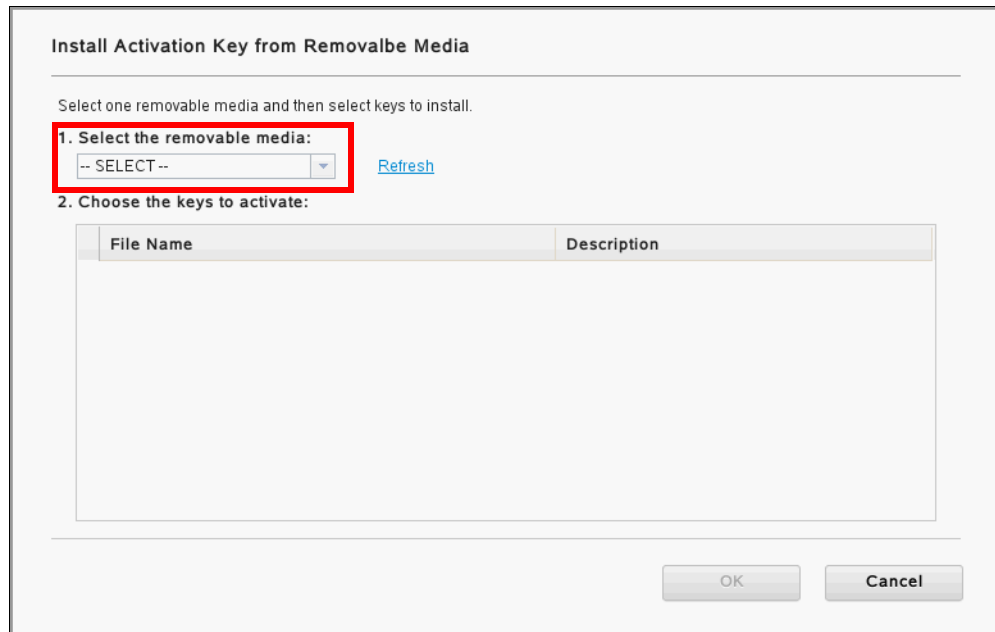

Figure 3-19 Removable media selection
1. If you select **Install from removable media**, the system detects available removable media. Select the removable media that contains your FoD keyfile, as shown in Figure 3-19.